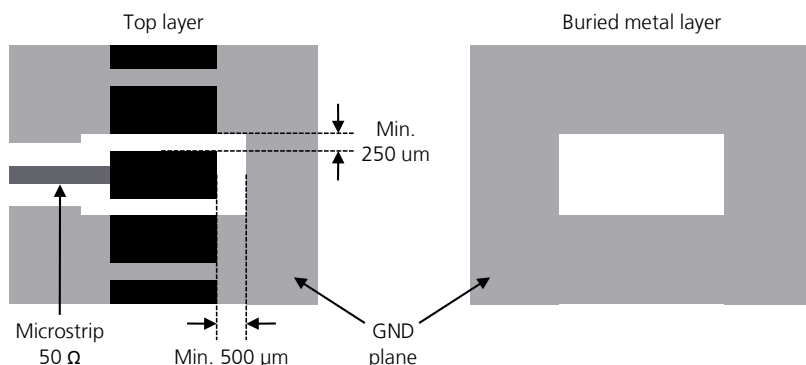

Figure 46: GND keep-out area on the top layer around the ANT pad and on the buried metal layer below the ANT pad
- Increase GND keep-out (i.e. clearance) for **ANT** pin to at least 250 μm up to adjacent pads metal definition and up to 500 μm on the area below the Data Module, as described in Figure 46
- Add GND keep-out (i.e. clearance) on buried metal layers below **ANT** pad and below any other pad of component present on the RF line, if top-layer to buried layer dielectric thickness is below 200 μm , to reduce parasitic capacitance to ground (see Figure 46 for the description keep-out area below **ANT** pad)